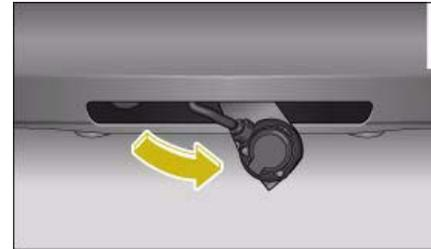

Fig. 244 Area below rear bumper: Folding up the socket
- Then swivel the socket up ⇒ fig. 244 **as far as it will go**. The mounting fixture will be closed automatically.